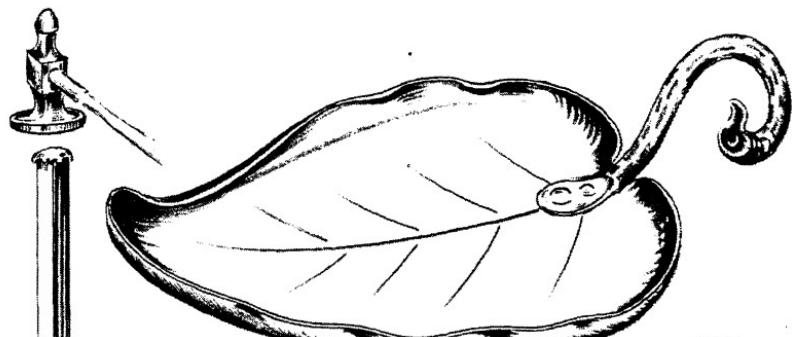

FIG. 1
10. With a blunt chisel and a chasing hammer (Fig. 1) vein the leaf.